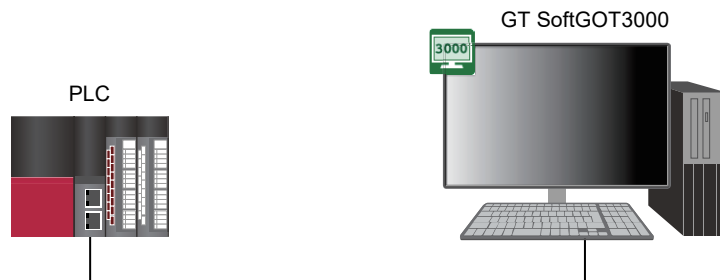
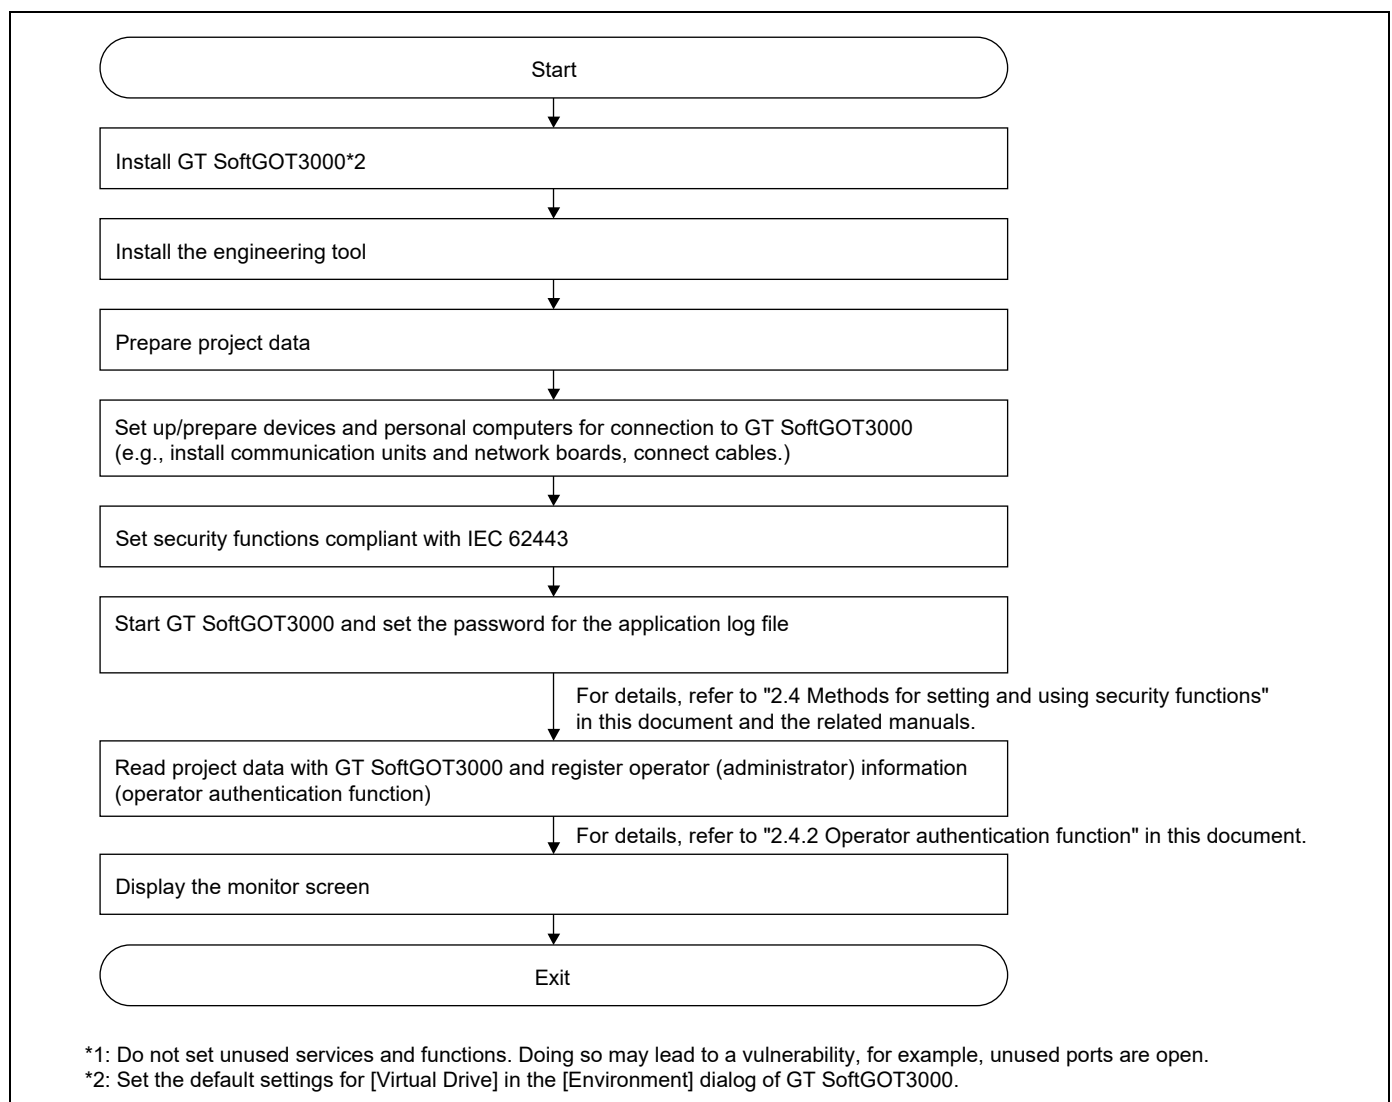

Figure 7 System configuration example
Figure 8 Procedure before operation
In a system using GT SoftGOT3000 (Figure 7), it is recommended to operate GT SoftGOT3000 according to the procedure shown in Figure 8 to ensure compliance with IEC 62443-4-2 (with security enhancement settings enabled).
- To use GT SoftGOT3000 in compliance with IEC 62443-4-2, perform necessary security functions at each stage of installation, operation, maintenance, and disposal of GT SoftGOT3000 according to the procedure shown in Figure 8.